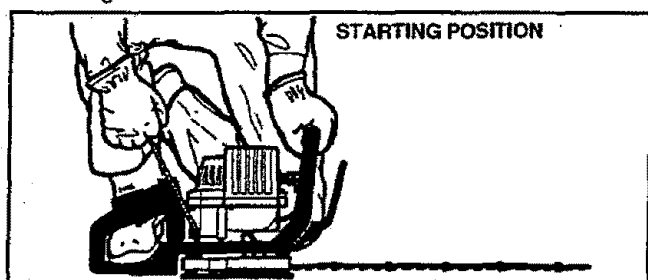

Figure 7
## BASIC STARTING PROCEDURE (Fig. 7, 8 & 9)
- Rest unit on ground. Support the unit so the blade is off the ground and away from trees, bushes, onlookers, etc. Figure 7.